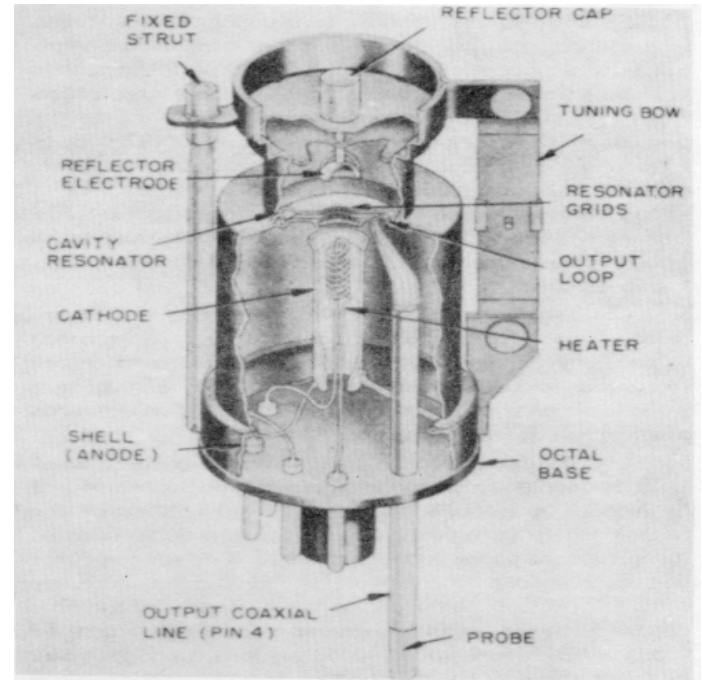

Figure 2-20. Test Oscillator Tube Cut-away View
(1) The type 2K25 reflex klystron tube V104 (See figure 2-20.) used in the test set is a velocity modulated microwave oscillator. It contains an electron gun that produces a focused electron beam of uniform velocity, a cavity resonator (tunable through the range of operating frequencies), and a reflector electrode that decelerates and returns the electron beam towards the resonator.